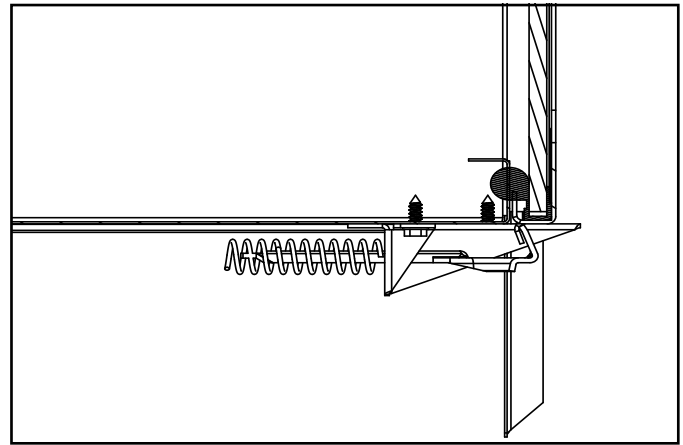

Figure 4.2 Fixed Glass Assembly
- The glass assembly fastens to the fireplace in four places. The four fastening mechanisms are spring-loaded glass latches. An example of the glass latch is shown in Figure 4.2